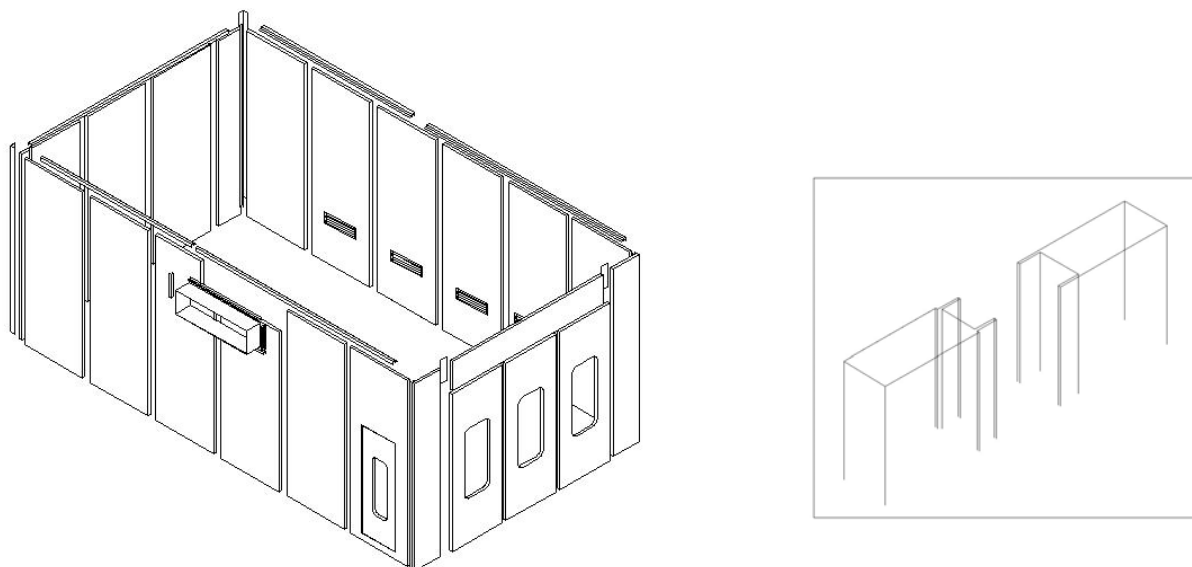

Fig. 3.8
1) connect the wall board in turn and fix them to the down U style slot with nail, make sure the gap should be smallest. Check the whole length of two sides wall board should be suitable for the demand. (shown in Fig.3.8)